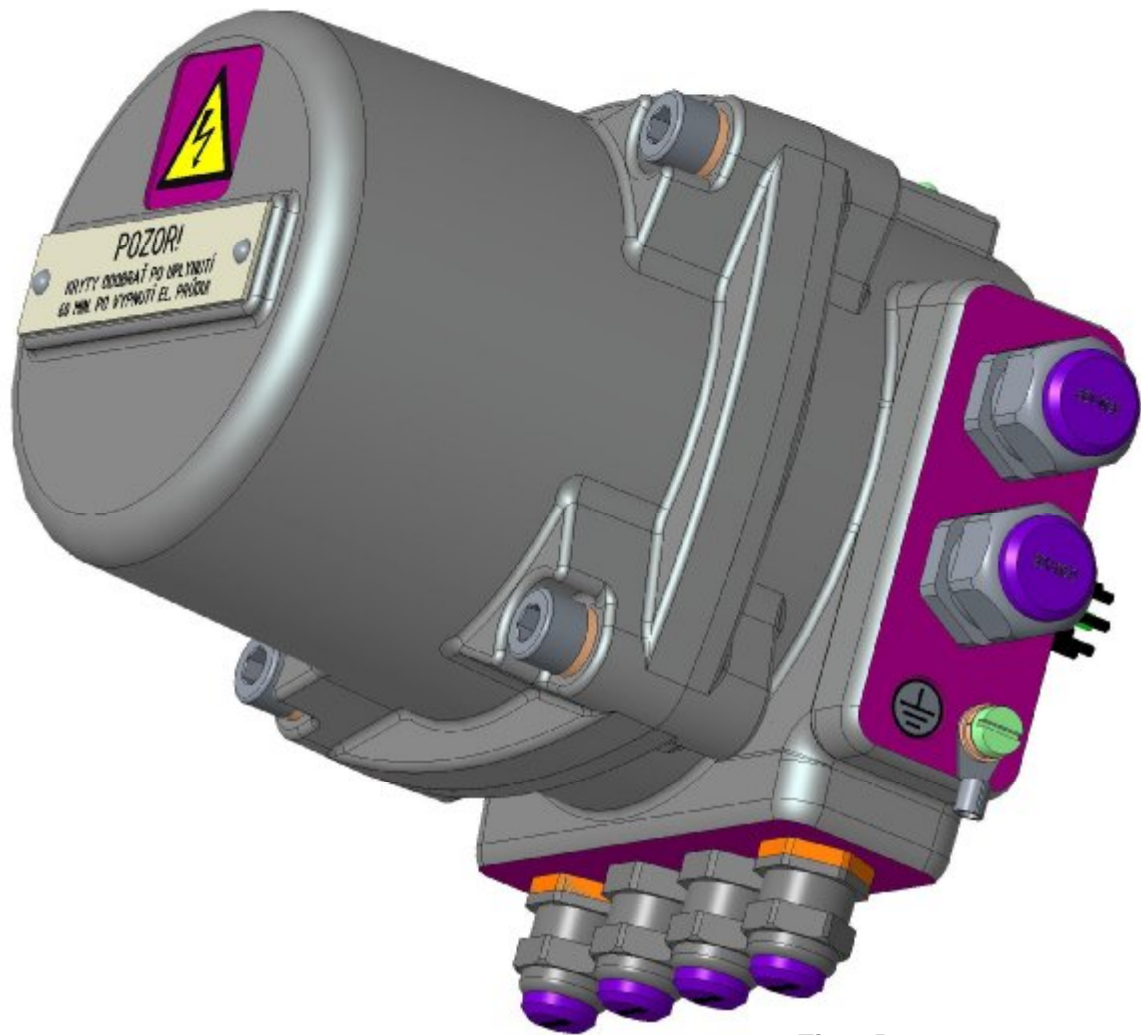

Fig. 1B
Terminal box - with protection type "e" (**Fig. 1B**).
- Electrical connection in separate terminal box with protection type "e" (Fig. 1B).